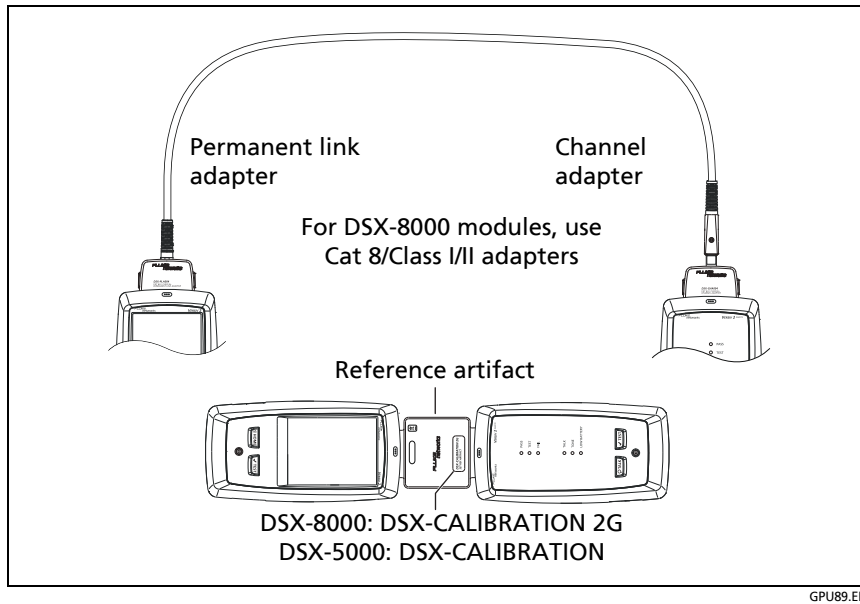

Figure 13. Reference Connections for Twisted Pair Cable
- 3 Use the appropriate adapters or a reference artifact to connect the main and remote testers together as shown in Figure 13.